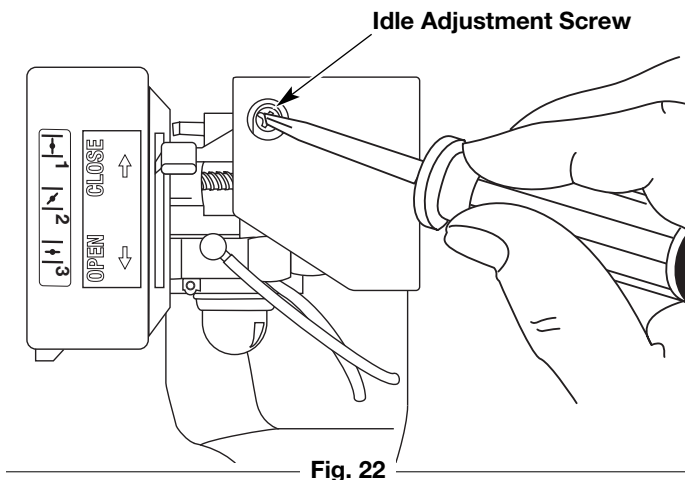

Fig. 22
The idle speed of the engine is adjustable. An idle adjustment screw is reached through a hole in the top of the engine cover (Fig. 22).
2. Release the throttle trigger and let the engine idle. If the engine stops, insert a small phillips or flat blade screwdriver into the hole in the air filter/muffler cover (Fig. 22). Turn the idle speed screw in, **clockwise**, 1/8 of a turn at a time (as needed) until the engine idles smoothly.